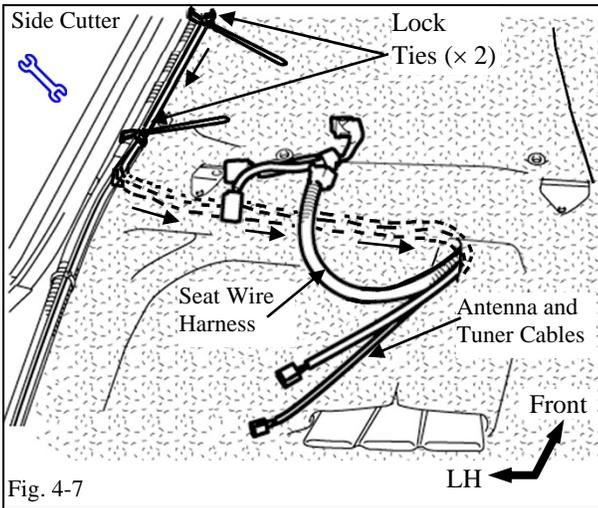

Fig. 4-7
- (k) Route the tuner cable and antenna cable, and then secure them with two (2) lock ties. (Fig. 4-7)
- (l) Route the tuner cable and antenna cable under the floor carpet and through the seat wire harness access hole. (Fig. 4-7)